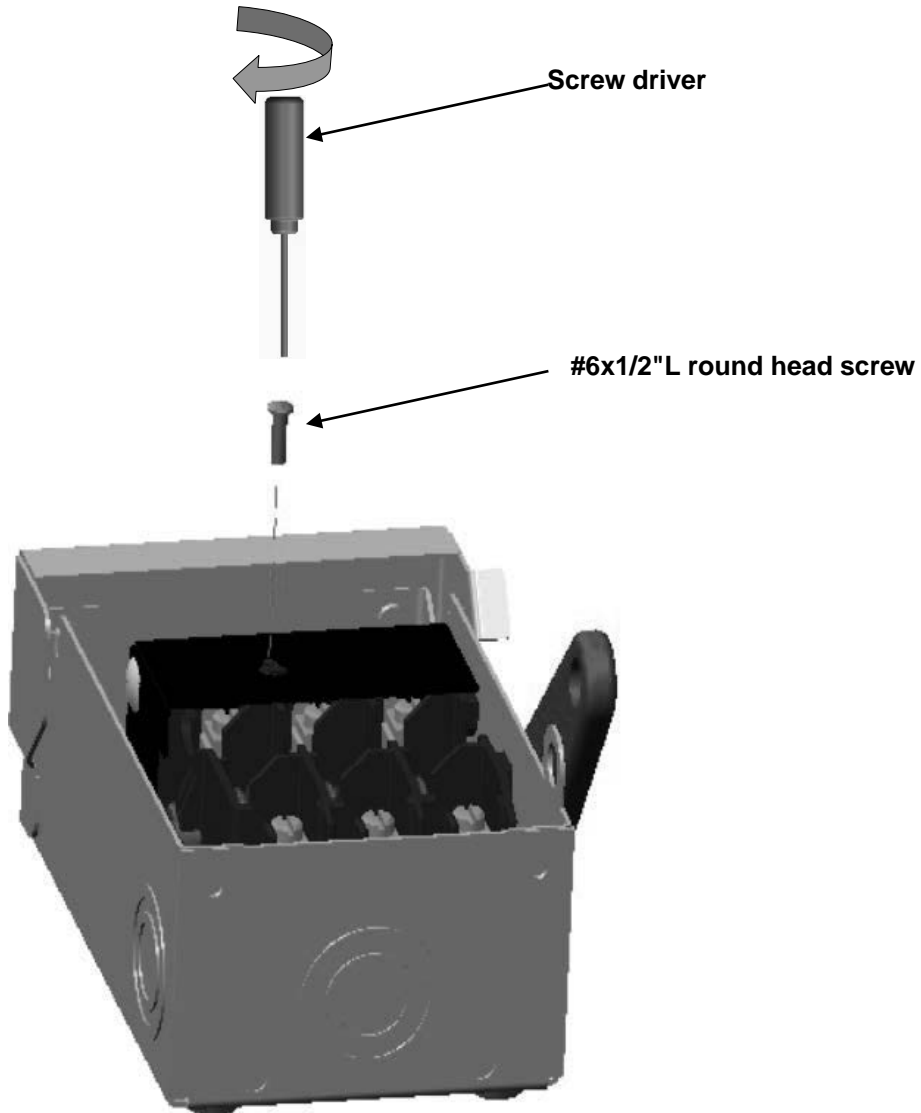

Fig. 2
3. Assemble the round head screw, as shown in Fig. 2. Ensure the screw is fully inserted (check screw head is fully seated against the touch safe barrier).